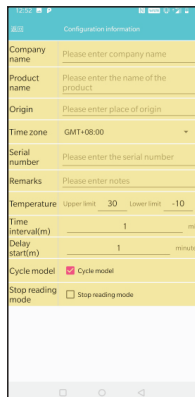

Figure 2
2. Configuration Information interface (Figure 2)